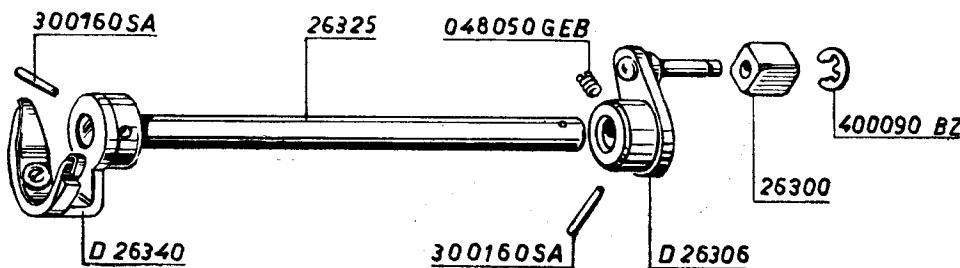
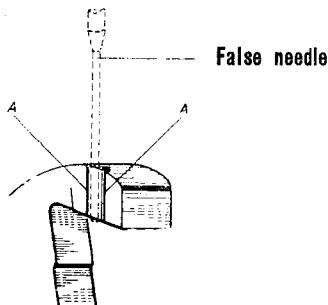

Fig. 30
Fig. 33
In the BF and BU Nova and Mira NECCHI machines, the oscillating shaft crank No. D 26306 is pinned to the carrier shaft No. 26325 (Fig. 30). In these machines, therefore, the angular position of the shuttle carrier at one end of the carrier shaft in relation to the oscillating shaft crank at the other end of this shaft remains always the same.
1. Place and pin the shuttle carrier No. D 26340 (Fig. 30) to one end (the one closest to the circumferential lines) of the carrier shaft No. 26325, then assemble with machine. Place the oscillating shaft
crank No. D 26306 on the other end of carrier shaft in such a position that shuttle carrier and oscillating shaft crank include an angle of about 90 degrees (as indicated in Fig. 31). This angular position is approximately correct but it must be checked (see item 2). Now, tighten firmly the set screw No. 048050 GEB in the oscillating crank shaft (Fig. 30). Assemble the machine completely.
Turn the balance wheel slowly by hand until the needle is raised about  $3/32"$  above its lowest position. At this moment, the point of the shuttle should be exactly in the center of the rising needle (Fig. 32). If this requirement is not met, loosen the set screw No. 048050 GEB in the oscillating crank shaft (Fig. 30) and turn the carrier shaft No. 26325 in the required direction until the point of the shuttle has reached the center of the needle which has remained stationary. Tighten firmly the set screw No. 048050 GEB.
Insert the gauge No. AC 4/75 as explained in the paragraph: «Timing of shuttle and needle bar in the BF Nova and Mira». Bring the needle bar to its lowest position. In this position, the false needle, if correctly adjusted, will lie between the two timing lines «A» (Fig. 33). If the needle does not lie between the two timing lines «A», loosen the screw No. 048050 GEB (Fig. 30). Now, without moving the balance wheel, turn the carrier shaft by hand in the required direction until the false needle comes to lie between the two lines «A». Tighten the screw No. 048050 GEB firmly and remove the gauge.